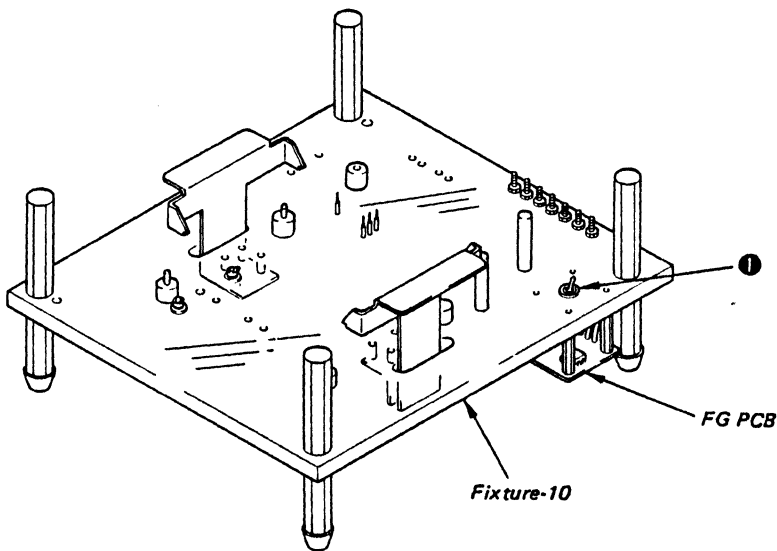

Fig. 2-10 Fixture-10 Configuration
(1) Fixture-10 configuration (Refer to Fig. 2-10)